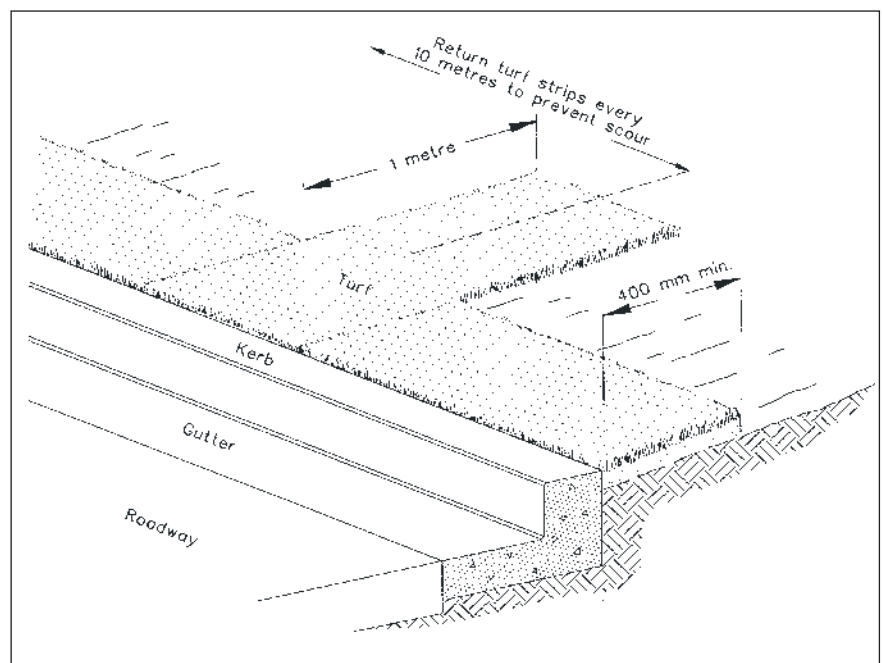

Figure 6A: Planted turf strip.
**Vegetation is the most effective soil stabiliser available on building and construction sites.** Keep groundcover along surface drainage areas and on steeper slopes. Retain significant areas of healthy grass down-slope of the worksite, these strips can be highly effective for filtering out coarse sediment. The flatter and wider the strips are, the more effective they become. Native vegetation along streams and waterways should be retained and protected from sediment by installing additional sediment control measures up-slope e.g. fibre rolls and sediment fences (see **Fact Sheet 14**). On exposed sites a 400 mm wide planted turf strip between the kerb and the footpath is a good last resort sediment control, filtering the runoff before it enters the stormwater system (see **Figure 6A**).
Text in this brochure has been obtained and modified from the “Do It Right On Site” brochure series, kindly provided by the Southern Sydney Regional Organisation of Councils. Figure 6A from Landcom 2004 “Soils & Construction Volume I Managing Urban Stormwater (4th edition)”.